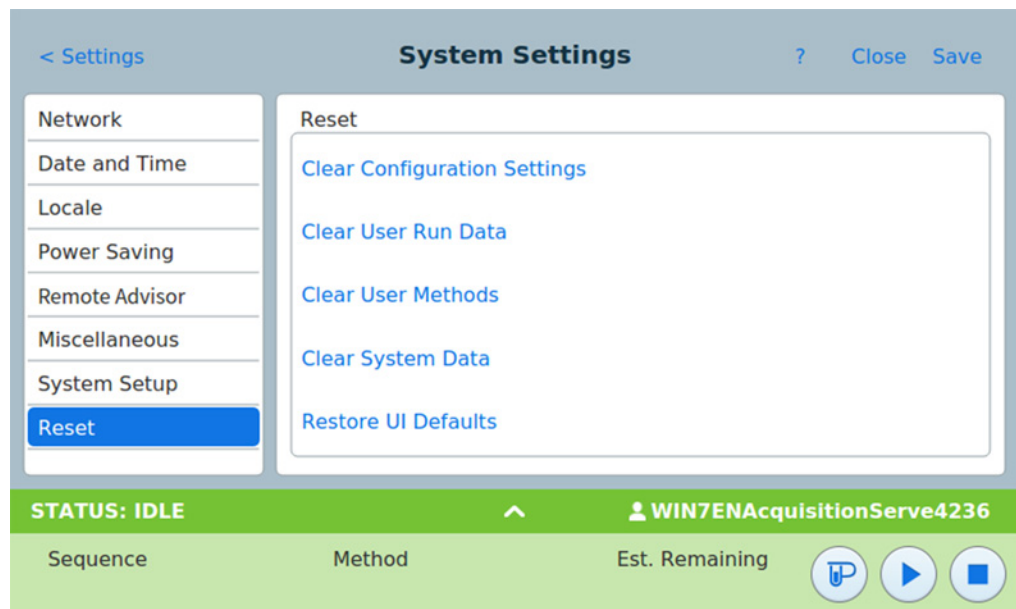

Figure 50 Reset page
- 1 From the System Settings page, press the **Reset** page selection button. The Reset page appears. See Figure 50.